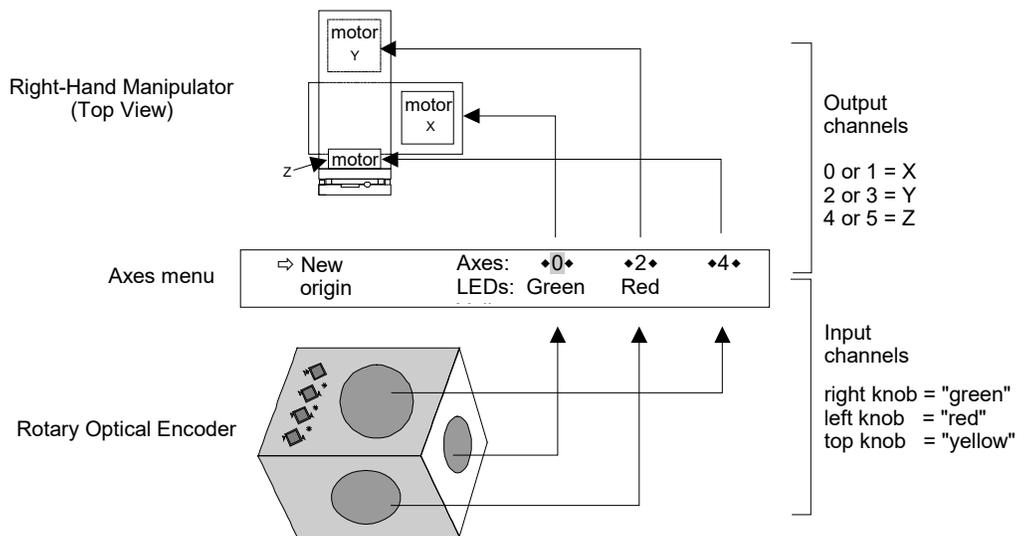
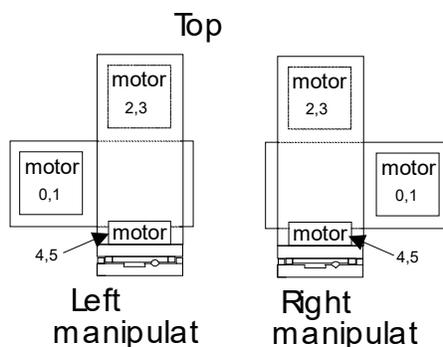

Figure 3-5. Axis assignment map.
Figure 3-6. Values assigned to each motor.
- The numbers (0...5) used in the Axes menu refer to an MP-285 output channel and its polarity (direction of movement). Each pair of these channels is hard-wired to a motor: 0 and 1 = the X motor, 2 and 3 = the Y motor, and 4 and 5 = the Z motor (see Figure 3-6). It is important to remember that these relationships never change.
- To assign a specific motor to an input device axis, enter one of the two numbers corresponding to that motor (see Figure 3-5 and Figure 3-6) to the input device control being edited in the Axes menu.